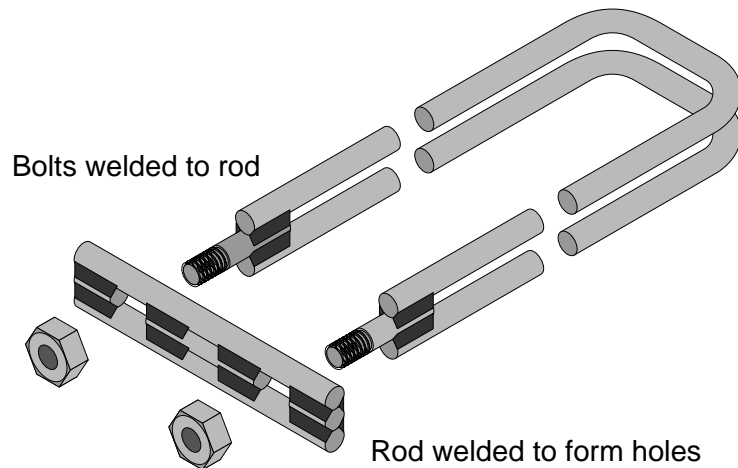

Figure 5: U-bolts for fixing axle beams to U frames.
- 3) Next fit the axle beams in between the two U frames to make the frame shown in figure 4. The best way to join the U frames and the axle beams together strongly is to make up some big U bolts like those shown in Figure 5. These are made from 8 to 12mm round bar and some bolts. You will see from the drawing that they are made by welding rod together, not drilling holes.